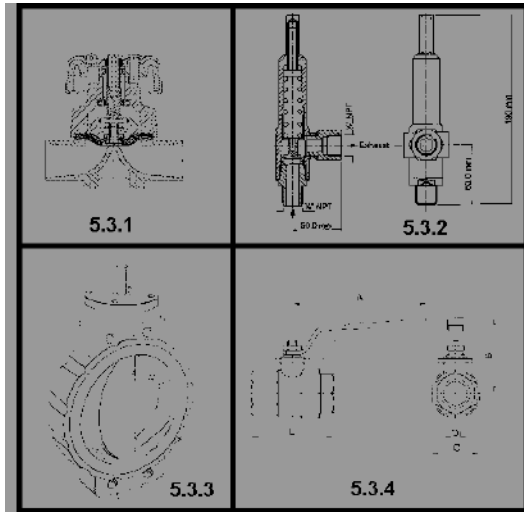

FIGURE 1
5.3 Name the valves shown in FIGURE 1. Write only the name of the valve next to the question number (5.3.1–5.3.4) in the ANSWER BOOK.